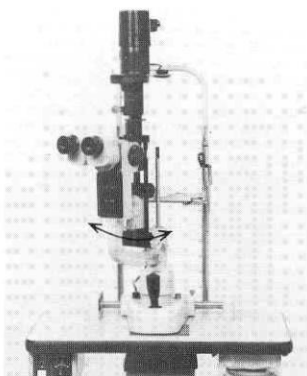

Fig. 25
- a) Tighten the slit lamp arm fixing knob¹⁵ and rotate the slit lamp arm and microscope arm together around the upright post (see Fig. 25), and.